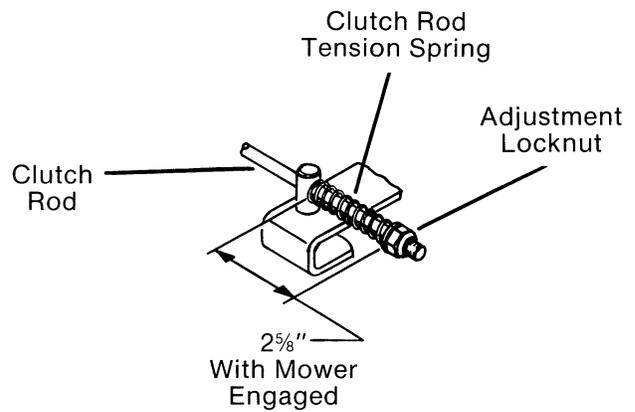

FIG. 16
- B. Move the P.T.O. lever to the ENGAGED (up) position. Measure the compression of the clutch rod tension spring. Spring should be compressed to dimension shown in (Fig. 16). Turn adjustment locknut on end of clutch rod until dimension is achieved.
- G. If adjustable idler pulley has reached the last hole in the pulley bracket and the belt still slips; turn adjustment locknut on end of clutch rod (Fig. 16) **in** (clockwise) until belt stops slipping.
I. Move the P.T.O. lever to the ENGAGED (up) position. Measure the compression of the clutch rod tension spring. Spring should be compressed to dimension shown in (Fig. 16). Turn adjustment locknut on end of clutch rod until dimension is achieved.